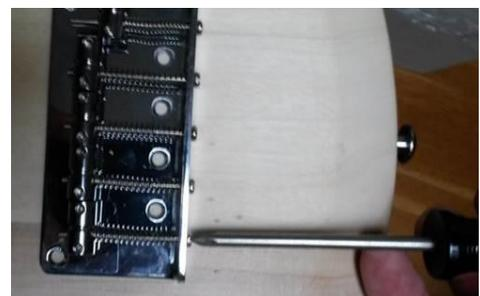

Fig 5.5 Intonation Adjustment
5.5 Intonation (Figure 5.5) ..... - 4 -
### 5.5 Intonation (Figure 5.5)